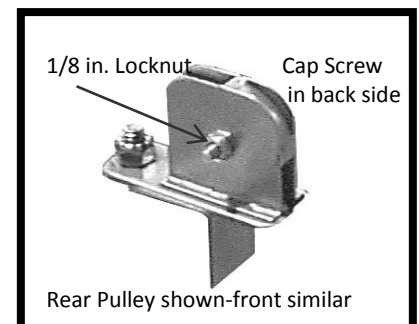

Figure 68: Pulley Assembly
2. With a flat-blade screwdriver and a 3/8 in. wrench, remove the cap screw and locknut holding the wheel in the pulley assembly (Figure 68).